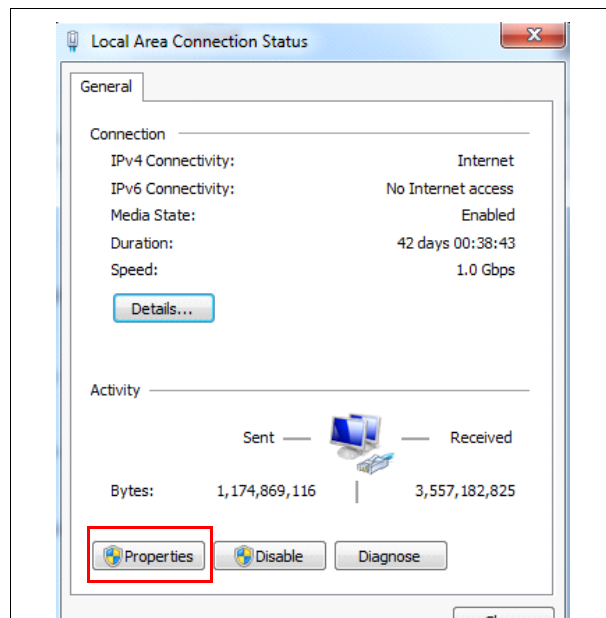

Figure 13. Select Properties
4. Select **Properties** (Figure 13):